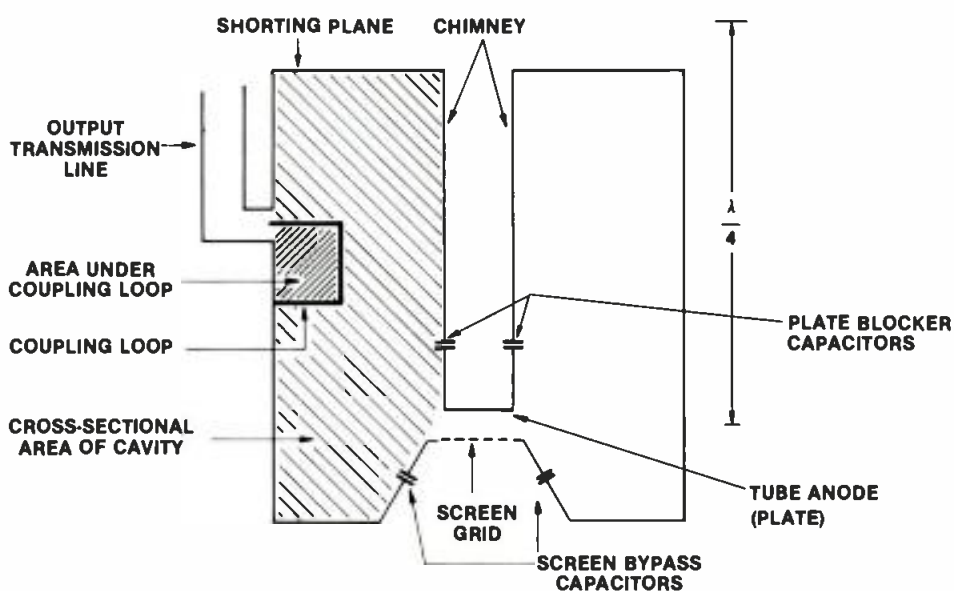

Figure 10. The use of inductive coupling in a $\frac{1}{4}$ -wavelength PA stage.
- (1) The cross-sectional area under the coupling loop, compared to the cross-sectional area of the cavity. (See Figure 10.) This effect can be compared to the turns ratio principle of the transformer.
- (2) The orientation of the coupling loop to the axis of the magnetic field. The